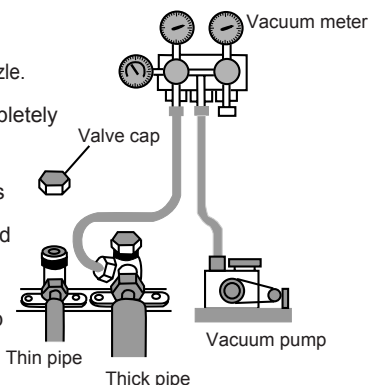

Fig. 10
9. If it is possible, exhaust air in unit by vacuum pump on gas core (fig. 10).